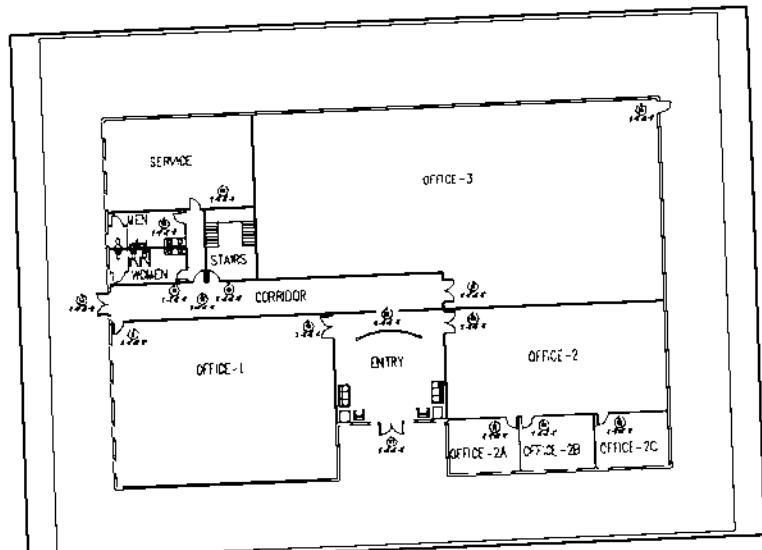

Figure 14.
3. Each time the dialog box appears, replace the period for the Door number and Room name with the appropriate information listed below and as shown in Figure 14.
- > Pick insertion point:[place tags in drawing as shown in Figure 14]